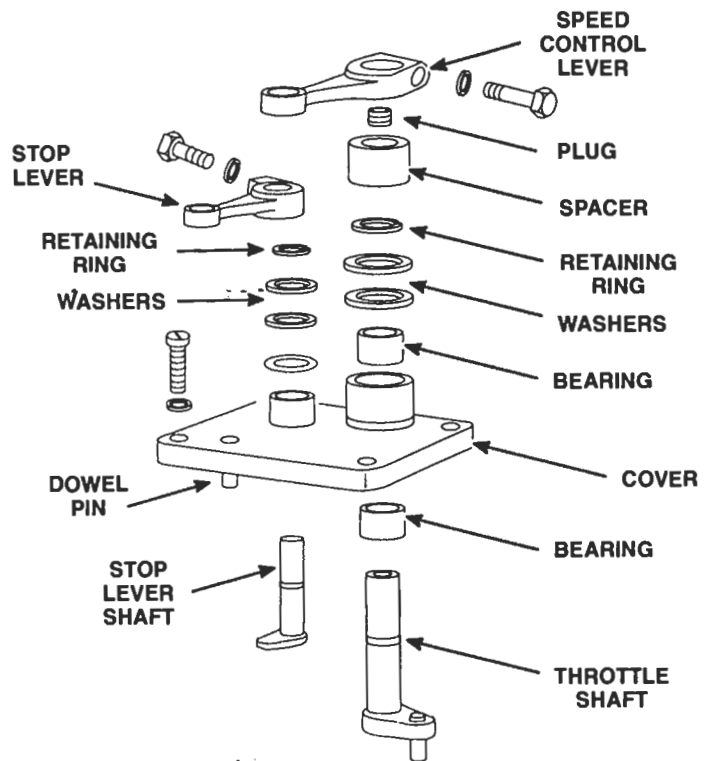

Figure 3. Exploded View of Governor Cover
1. Disconnect the linkage (Figure 3.) attached to the governor levers.